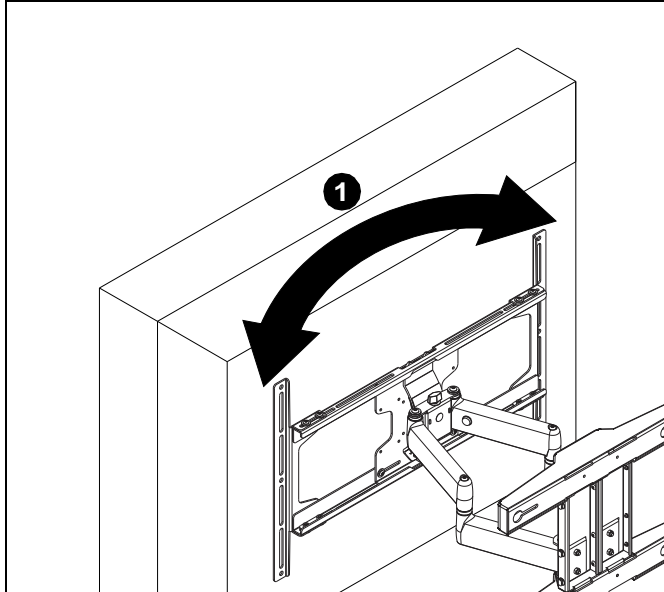

Figure 14
1. Roll position may be adjusted 2.5° in either direction. (See Figure 14)